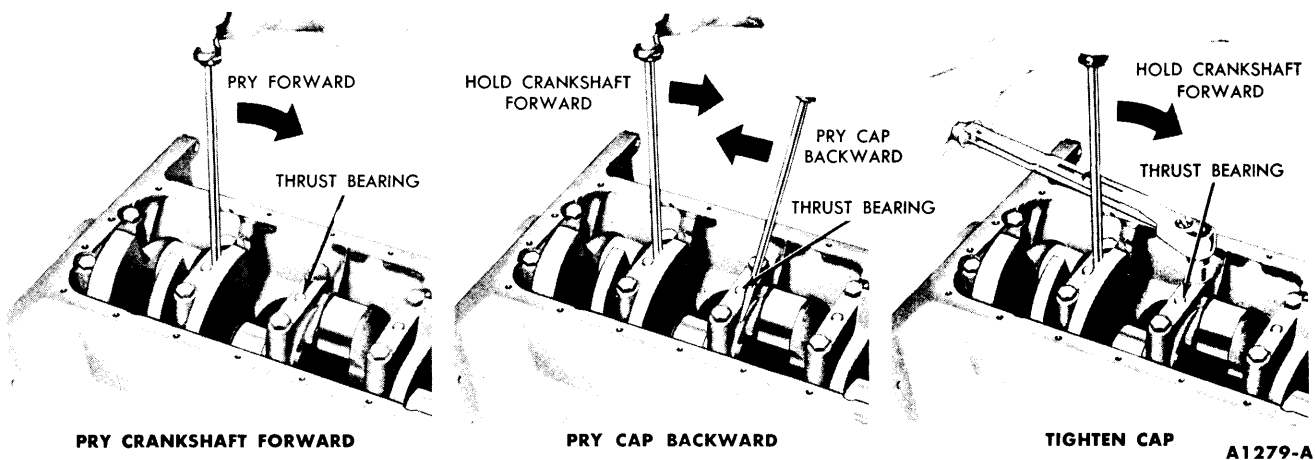

FIG. 55—Thrust Bearing Alignment
12. Pry the crankshaft forward against the thrust surface of the upper half of the bearing (Fig. 55).
rear (Fig. 55). This will align the thrust surfaces of both halves of the bearing.
14. Retain the forward pressure on the crankshaft. Torque the cap bolts to specifications (Fig. 55).